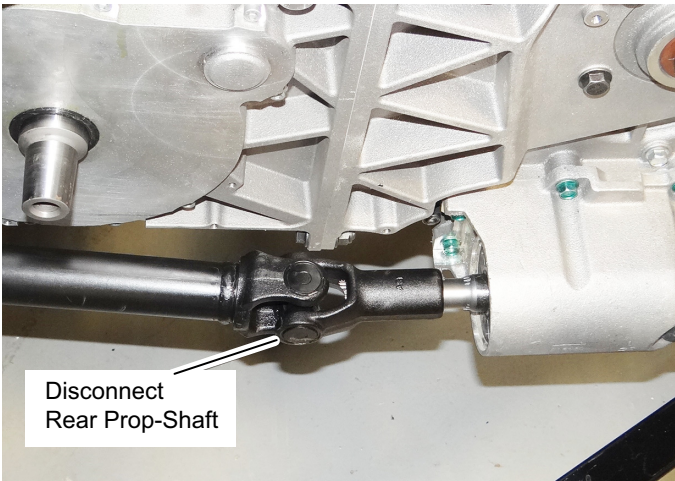

Fig. 4 Disconnect Rear Prop-Shaft
8. Slide rear prop-shaft off of the rear differential (Ref. Fig. 4).